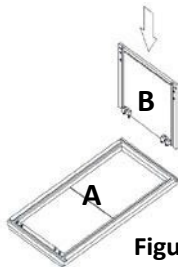
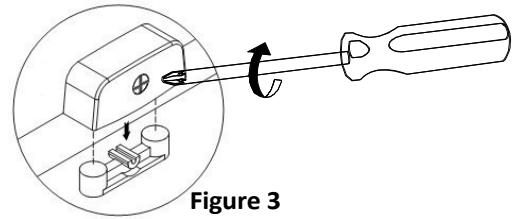
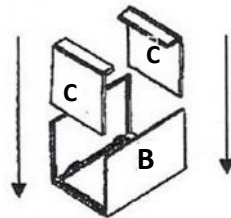

Figure 2
Figure 3
Figure 4
2. **Installing the Side Panels:** Insert the right and left side panels (B) into the groove of face frame (A) and align the cam lock connectors (Figure 2). Lock the cam lock with screwdriver by turning the screw 180° degrees clockwise (Figure 3).
3. **Installing the Top and Bottom:** Gently spread side panels and insert top and bottom (C) into grooves of side panel (B) until they seat in the face frame (A) (Figure 4). Align them and lock each cam (Figure 3).